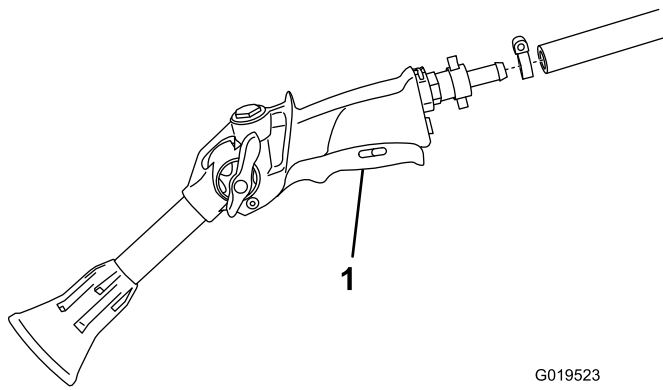

Figure 11
1. Connect the free end of the long hose to the fitting on the spray gun (Figure 11).